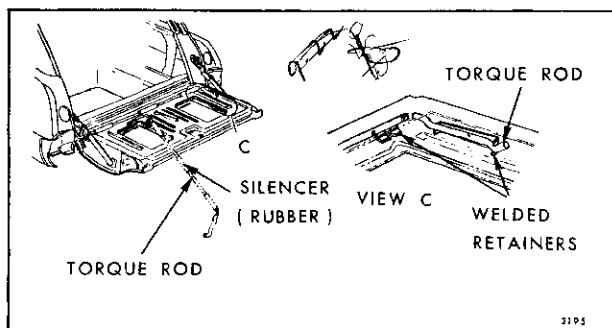

Fig. 9-20—Tail Gate Torque Rod Assembly
- Disengage torque rod from welded retainers. The retainer is located on the right side on "B" styles and on the left side on "A" styles. (See Fig. 9-20).
- Remove torque rod silencer (rubber) from torque rod, and work torque rod out through glass loading hole (See Fig. 9-20).